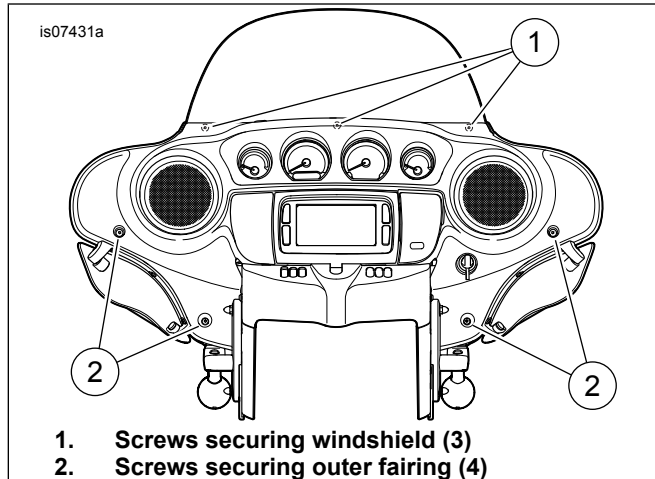
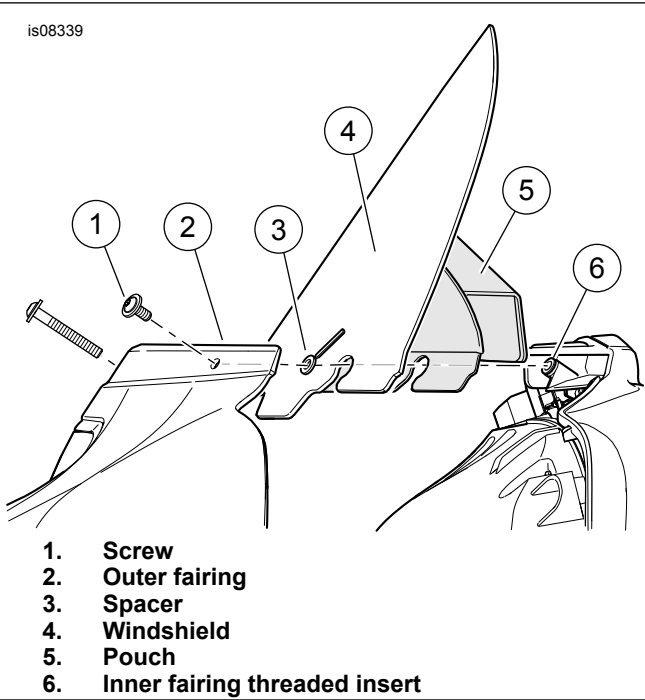

Figure 1. Fairing/Windshield Screws
Figure 2. Spacer location
1. See Figure 1. Remove three screws (1) securing the windshield at the top of the outer fairing.
6. See Figure 2. Get three spacers (3) from the kit (the fourth spacer is provided as a spare).
- b. Insert the screw (1) through the outer fairing (2), spacer (3), windshield (4) and fairing pouch (5). Thread the screw into the inner fairing threaded insert (6), but do not fully tighten.
8. See Figure 1. Tighten the three windshield screws (1) to 2.8–3.4 N·m (25–30 in-lbs).